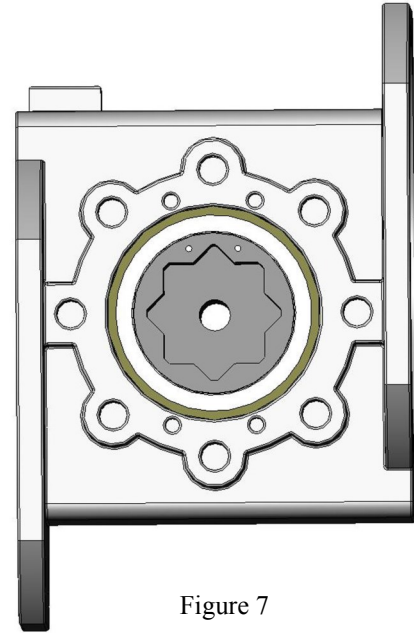

Figure 7
33. Place the body on a flat surface with the shaft axis vertical and with right side body flange being further away from you than the left end flange as per figure 7. The flange facing to the right should be the one into which the rack will be inserted and the saddle should be oriented such that there are two bushing sets on the side that will support the rack.